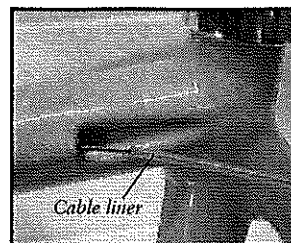

Fig. 21
4. As the cable exits the cable liner at the back of the tube, pull the liner out of the frame (Fig. 21). The liner just barely fits through the ferrules, so it may require you to apply some rotation or wiggling to pass it through a ferrule.